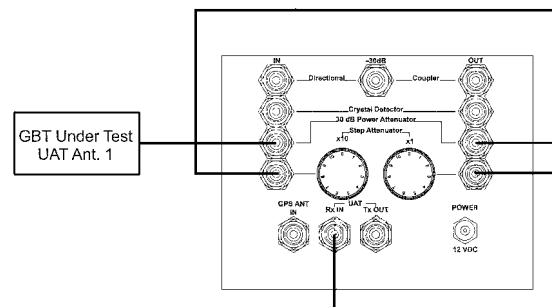

Figure 5-5 Transmit Data Test Setup
(3) Connect a cable between the GBT UAT ANT. 1 connector and the 30 dB Power Attenuator IN port on the GBT Test Set.
(4) Connect a TNC patch cable between the 30 dB Power Attenuator OUT port and the IN port of the Step Attenuator.
(5) Connect a TNC patch cable between the OUT port of the Step Attenuator and the UAT Rx IN connector on the GBT Test Set as in Figure 5-5.
- (6) Set the Step Attenuator to 60 dB.
- (7) Turn on power to the GBT under test.
- (8) Turn on power to the GBT Test Set. Turn on the MX20 and wait for the startup routine to finish. Press the TRAF soft key to display the Traffic page with Traffic enabled.
- (9) At the laptop computer, type the command: "GBT beacon on". Press ENTER.
- (10) View the MX20 for the display of Traffic information.
- (11) Press the FN key and then the SYS soft key. View the System Info page on the MX20 and ensure that the DATA LINK STATUS shows the HB and ADS-B counters incrementing.
- (12) At the laptop computer, type command: "uat gbssimon". Press ENTER.
- (13) The Status column in the "Data Link Status" window of the System Info page will show that TIS-B and FIS-B targets are detected and will increment the counter.
- (14) At the MX-20 screen, press the FN key and then press the TRAF soft key. The Traffic page will show GBT position data. Nine TIS targets should be displayed.
- (15) At the MX-20 screen, press the FN key and then press the FIS soft key. The FIS page will display a FIS test message.
The test setup connection is shown in Figures 5-5 and 5-6.